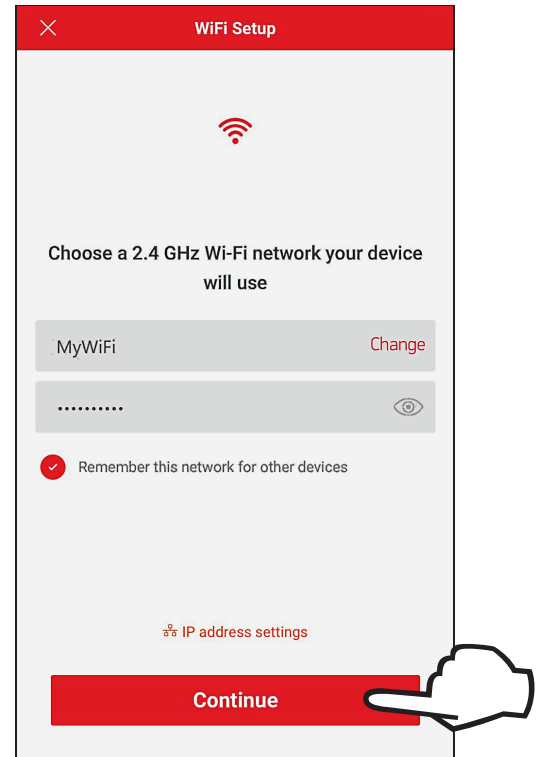

Figure 94. Wi-Fi Setup
1. The "Wi-Fi setup" screen will appear. Select or enter the Wi-Fi network you want your unit to be connected to and enter the network password. See Figure 94.